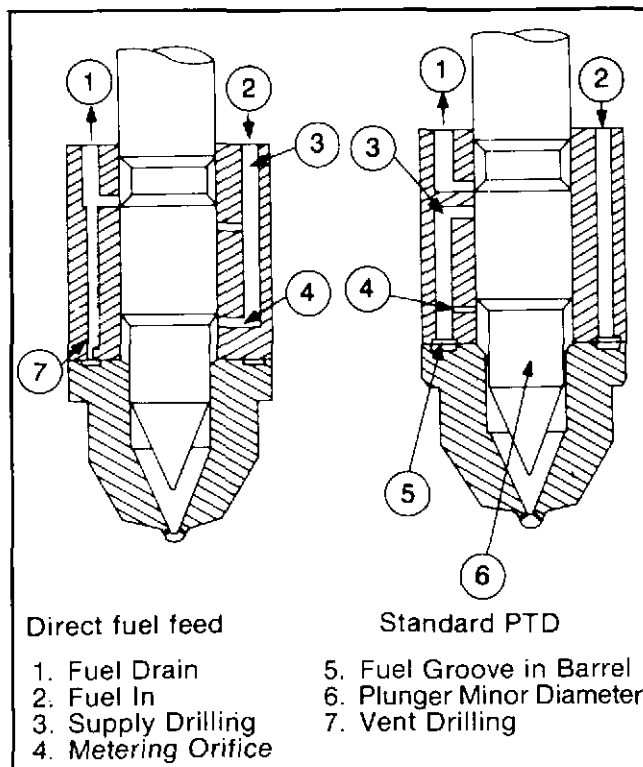

Fig. 2-14, (F60282). Direct fuel feed and standard PT (type D) injector barrel comparison
- b. Check the engine control Parts List for a direct fuel feed injector, Fig. 2-14.
8. The metering orifice hole is the smallest hole in the plunger bore of the barrel. This orifice hole is near the cup end of the barrel, Fig. 2-14.